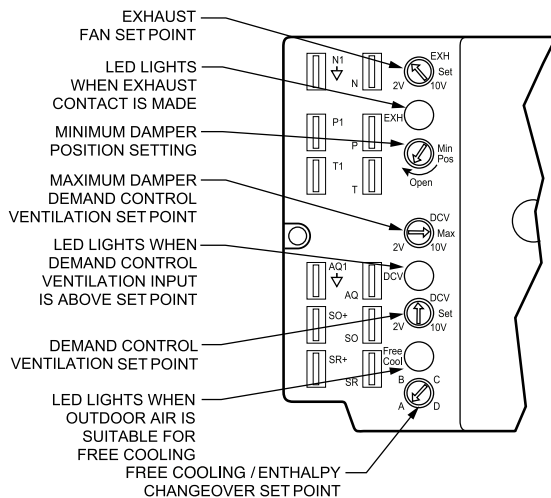

Fig. 3 — EconoMi\$er IV Controller Potentiometer and LED Locations
5. Ensure the black and red wires are connected on the EconoMi\$er IV controller correctly. The red wire should be connected to the “SO” terminal and the black wire to the “SO+” terminal. If they are not connected this way, make the connections as described. The CRTEMPSN002A00 kit contains an extra red and black wire. (See Fig. 3.)